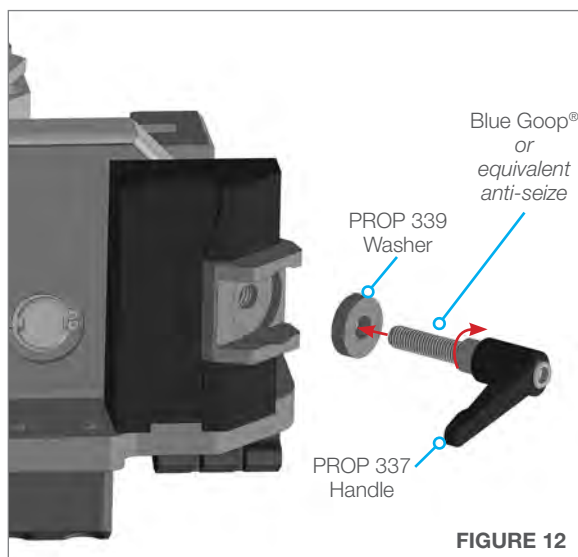

FIGURE 12
- Install the PROP 339 Washer with PROP 337 Handle by hand screwing it into the clamp block until it is tight. **(Figure 12)**